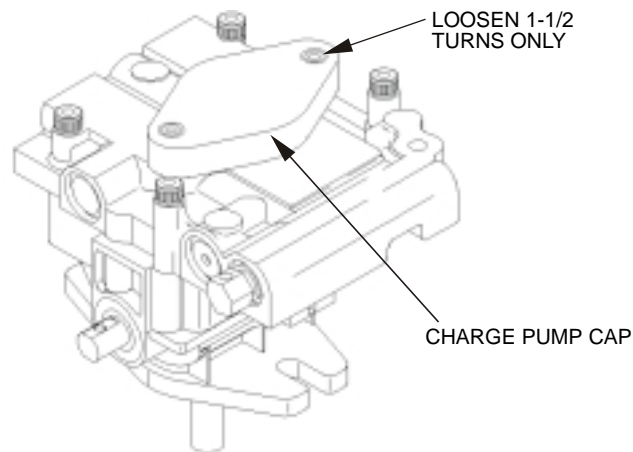

FIG. 10
- If either drive wheel does not rotate, one or both of the charge pumps (located on the top of the main pump as shown in Figure 10) may have lost their "prime". Refer to Section 5.1.10.
The critical area for purging air from the hydraulic system is between the oil reservoir and each charge pump located on the top of each variable displacement pump. (See Figure 10).
- e) To “prime” charge pump, loosen two hex socket head capscrews (shown in Figure 10) **1-1/2 turns only. Make sure engine is not running.** Lift charge pump housing upward and wait for a steady flow of oil to flow out from under housing. **Retighten capscrews.** Do this for both pumps. Note: Hydraulic reservoir can be pressurized to up to 5 psi to speed this process.